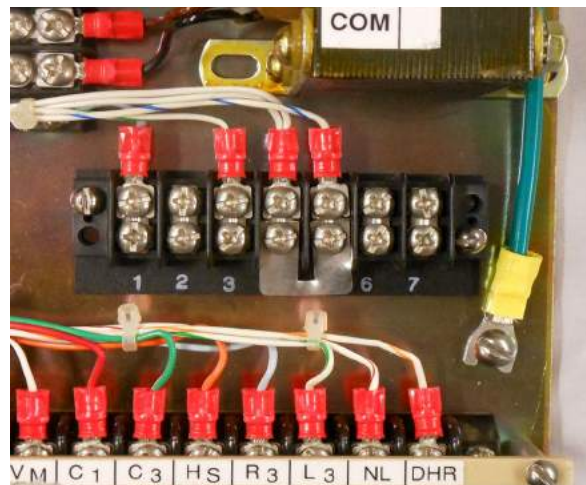

Figure 10. Remove metal jumper between terminals 4 and 5
4. If a jumper is present between terminals 4 and 5 of TB8 (see **Figure 10**), remove the jumper. If this jumper remains in place, the CL-7 control will display an Auto Tap Blocked indication.